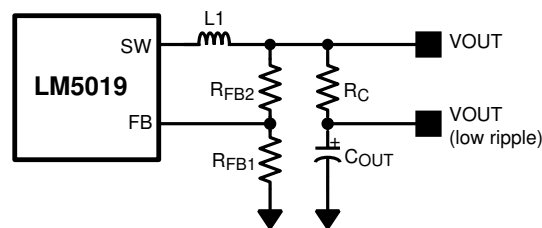

**Figure 7-1. Low Ripple Output Configuration**
This regulator regulates the output voltage based on ripple voltage at the feedback input, requiring a minimum amount of ESR for the output capacitor ( $C_{OUT}$ ). A minimum of 25 mV of ripple voltage at the feedback pin (FB) is required for the LM5019. In cases where the capacitor ESR is too small, additional series resistance can be required ( $R_C$  in Figure 7-1).
For applications where lower output voltage ripple is required, the output can be taken directly from a low ESR output capacitor, as shown in Figure 7-1. However,  $R_C$  slightly degrades the load regulation.